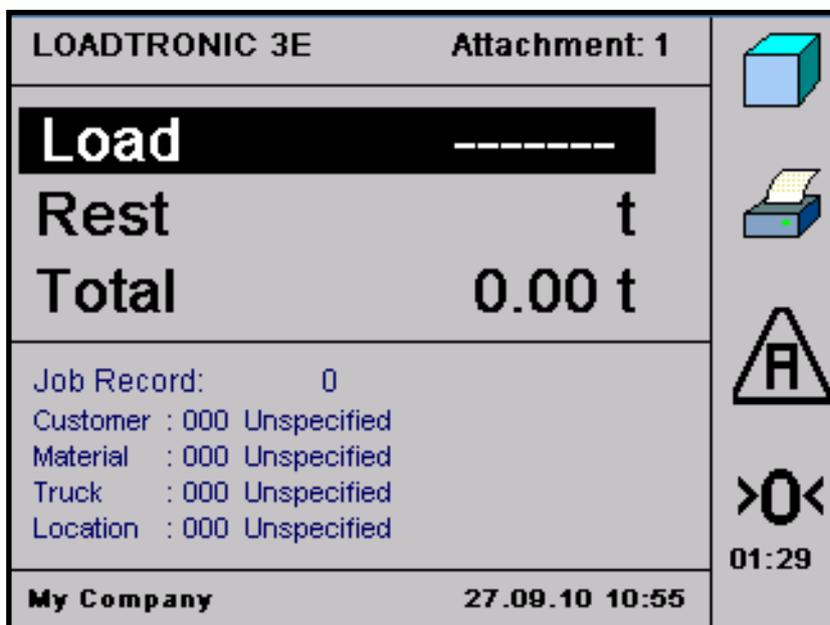

Figure 3-12 Pause mode.
1. Pressing the *up-arrow*/ \uparrow from weighing mode. When the LOADTRONIC 3E is in the pause mode no buckets will be weighed or recorded. The display will show a row of ‘-‘ signs, refer Figure 3-12.